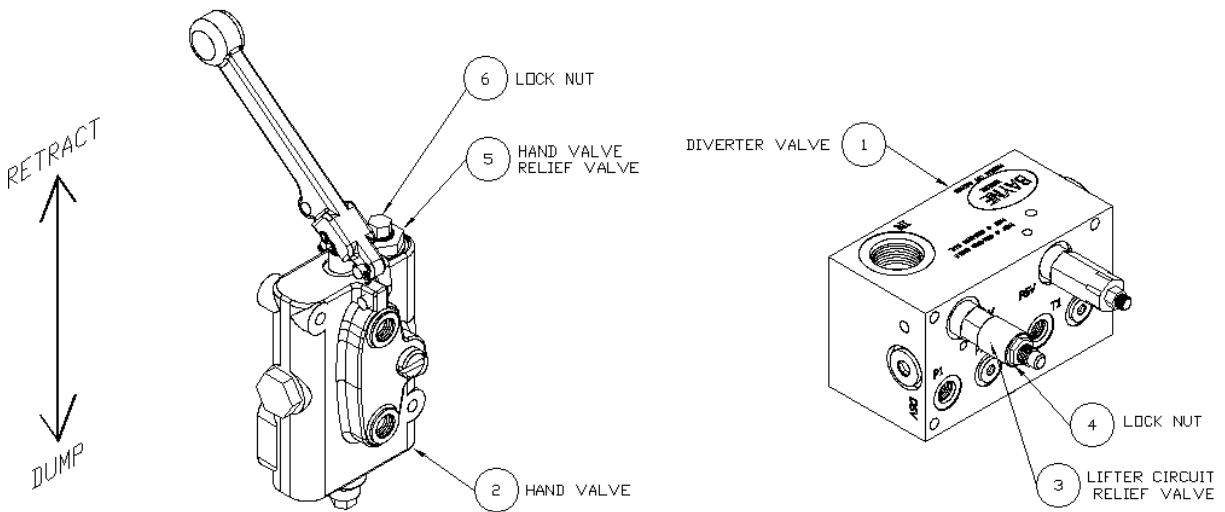

figure I-3
The diverter valve (1) (figure I-3) supplies the cart lifter hydraulic system with approximately 2 GPM of oil flow. This diverter valve is equipped with a lifter circuit relief valve (3) set at 2500 psi, to prevent the diverter valve from shutting down if a blockage occurs in the lifter circuit. There is also a relief valve (5) set at 1800 psi in the hand valve (2) to protect the lifter from excessive pressure. These relief valves are preset from the factory to operate properly on most trucks with a system pressure between 2300 and 2500 psi without any adjustment. However, if any adjustment is necessary, follow these instructions.
2. Loosen the lock nut (6) (*figure I-3*) from the hand valve relief valve (5) and turn the adjustment screw clockwise until it bottoms out.
3. Loosen the lock nut (4) (*figure I-3*) on the lifter circuit relief valve (3) and turn the adjustment screw clockwise until it bottoms out.
5. Operate the handle on the hand valve (2) (*figure I-3*) back and forth a few times to bleed all air from the lifter hydraulic system.
- a) Have an assistant hold the handle on the hand valve (2) (*figure I-3*) (*with pressure gauge installed at the "IN" port*) in the "retract" position to show pressure on the gauge.
- b) Turn the pressure relief adjusting screw on the lifter circuit relief valve (3) counter-clockwise until the pressure reading on the gauge is either 100 psi less than the truck system pressure or 2300 psi, which ever is the lowest.
- a) Hold the handle on the hand valve (2) (*figure I-3*) (*with pressure gauge installed at the “IN” port*) in the “retract” position to show pressure on the gauge.
- b) Turn the pressure relief adjusting screw on the hand valve relief valve (5) counter-clockwise until the pressure reading on the gauge is either 200 psi less than truck system pressure or 1800 psi, which ever is the lowest.
13. Tighten the lock nut (6) (*figure I-3*) on the hand valve relief valve (5) to secure the correct pressure setting.
14. Tighten the lock nut (4) (*figure I-3*) on the lifter circuit relief valve (3) to secure the correct pressure setting.